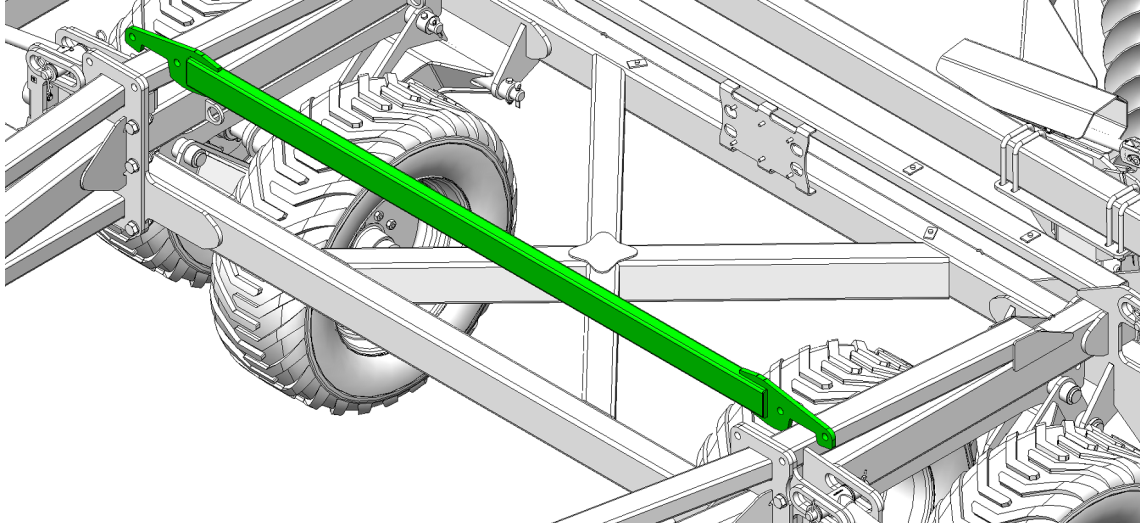
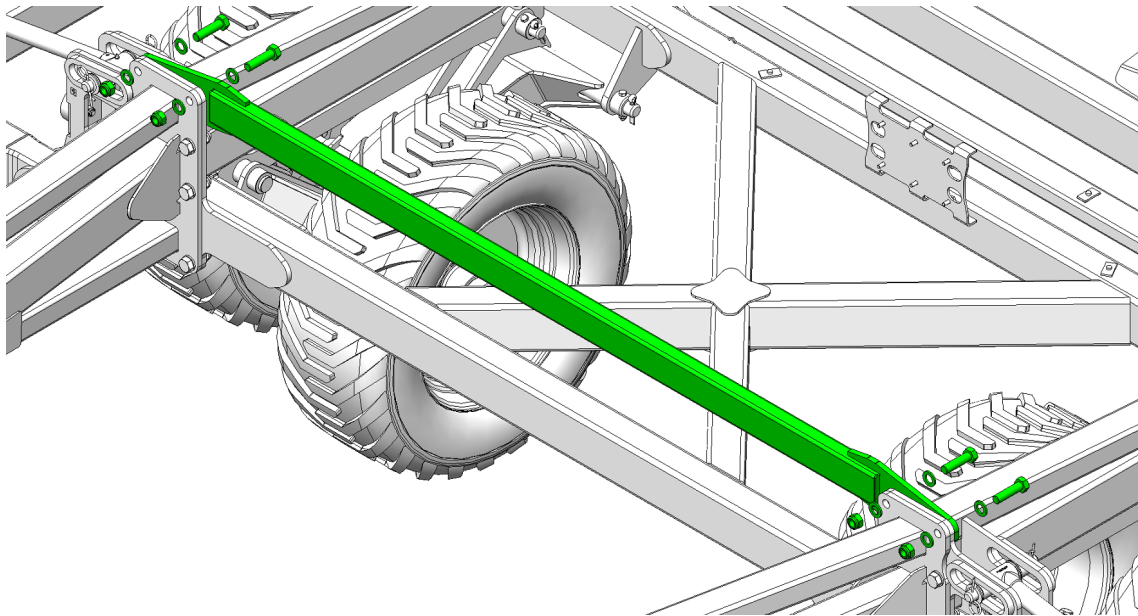
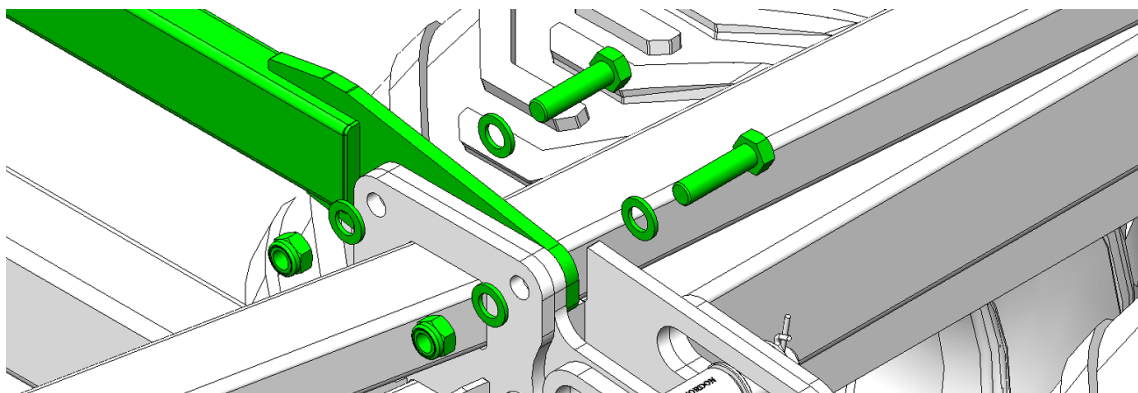

Figure 6 - Positioned: 46 Center Frame Brace
Figure 7 - Install Fasteners
Figure 8 - Install Fasteners: Detail - Left Hand Side
10. Install replacement fasteners. Refer to Figure 6, Figure 7, Figure 8